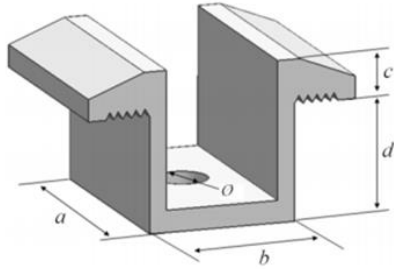
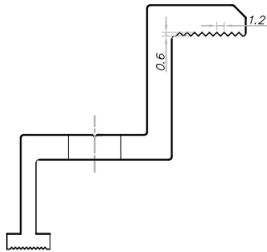
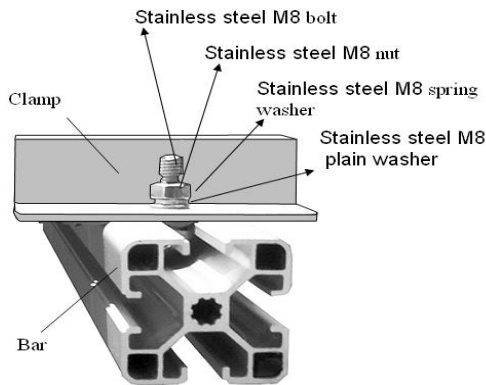

Fig. 13 Schematic diagram of the mid clamp
Fig. 14 Schematic cross section of the fringe clamp
Fig. 15 Schematic diagram of the fringe clamp
- ① Place the module on the two supporting rails (not provided by Astronergy) which should be made with stainless material and treated with an anti-corrosion process (e.g. hot dipped galvanizing). Each PV module needs at least four clamps to be fixed. The module clamps should not come into contact with the glass and should not deform the frame, otherwise they may cause module damage.
- ② Be sure to avoid shadowing effects from the module clamps. Weep holes on the module frame must not be closed or obscured by the clamps. The clamp must have at least 8mm but no more than 11mm overlap with the frame of the module (The clamp section can be changed under the premise of ensuring reliable installation).
- ③ The top surface of the rail contacted with module frame should be equipped with grooves compatible with an M8 bolt.
- ④ If the grooves are not provided, holes of a suitable diameter may need to be drilled to allow bolts attaching to the rail at the same locations as mentioned above.
- ⑤ Ensure that the mounting sequence of each clamp is in the order of flat washer, spring washer and nut.
- ⑥ There are two types of clamps, the mid clamp shown in Fig. 13 and the fringe clamp shown in Fig. 14 and Fig. 15. The mid clamp has dimensions of a ≥ 40 mm, b ≥ 26 mm, c ≥ 5 mm, d ≥ 28 mm, $\text{Ø} = 9$
device after installation, it is suggested to choose fringe and mid clamps and make contact with the A side of the frame with groove patterns. Suggest to have 9 patterns with a space between 2 adjacent patterns of 1.2mm and a depth of 0.6mm, as shown in figure 14.